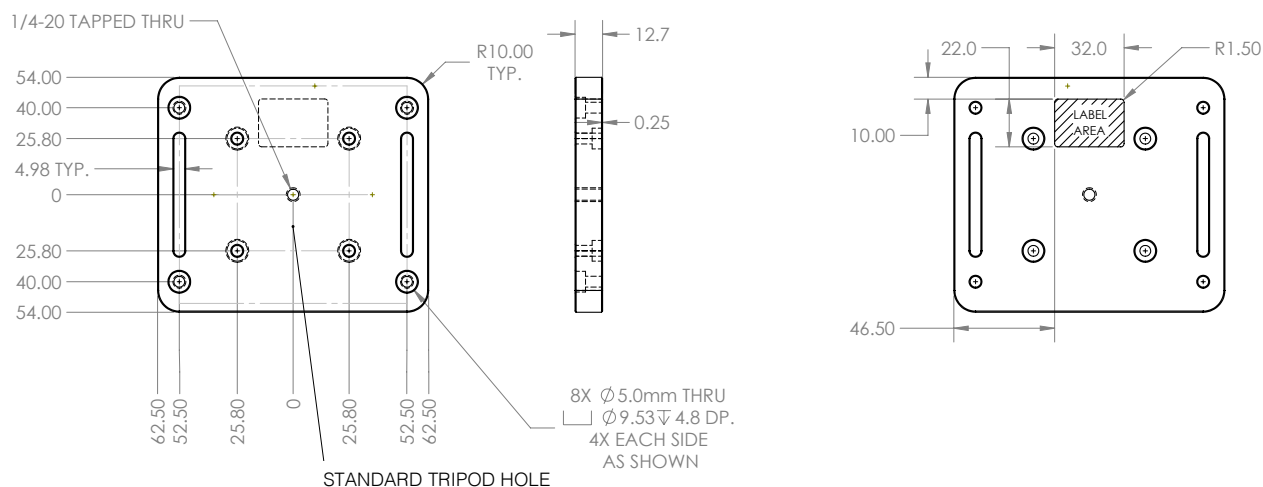

Figure 52. M8 Sensor Mounting Drawing of Rectangular Base Plate
2. Use your preferred fastening hardware to attach the M8 sensor with its attached rectangular base plate (Figure 52) to the pitch plate.